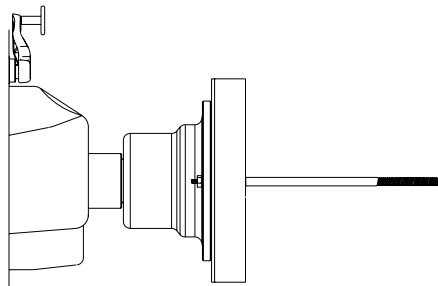

Figure 12
6. To perform a “P4” compensation, first mount the Flange assembly to the shaft as shown in Figure 12. Enter “P4” and press Enter. Then spin the shaft until a tone is heard. A second tone will sound as the shaft brakes to a stop. The adapter is now compensated. See Figure 12.